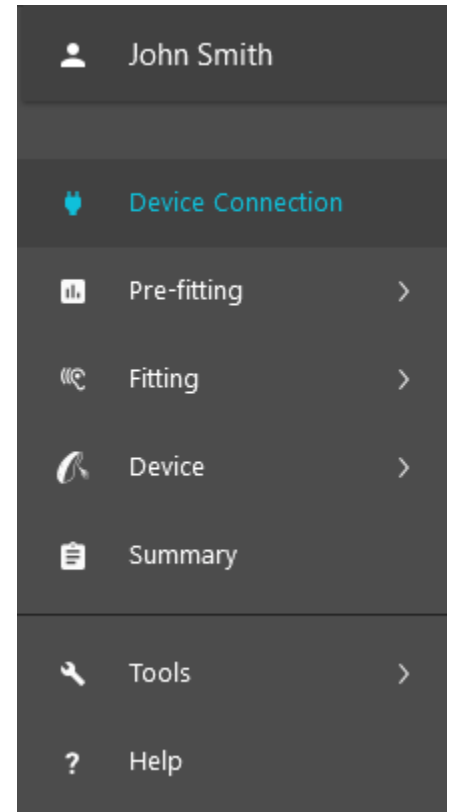

Figure 8: Navigation Bar
- **Navigation Bar** (Figure 8)